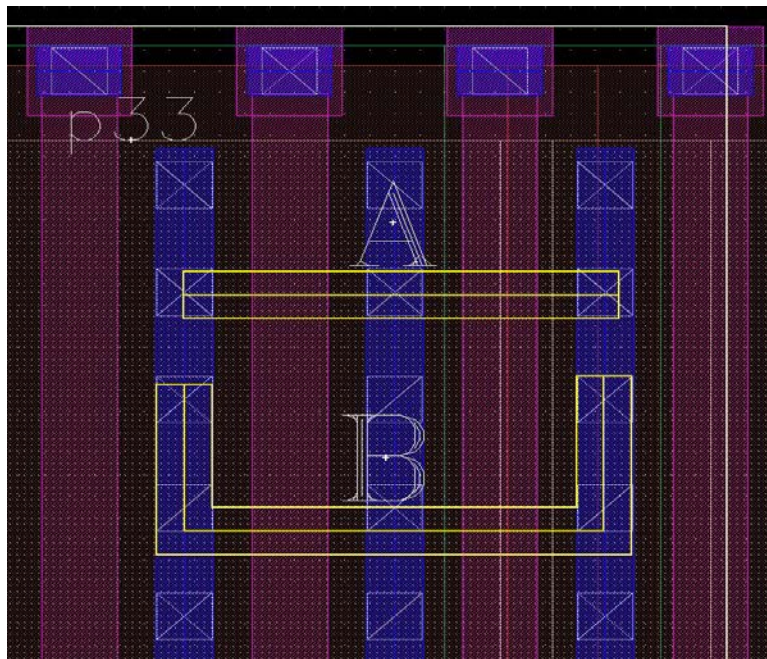

FIG.35b Extra turns at the starting/ending point to control via alignment
- 1) Vias on the starting point or ending point are always in same direction as the path, in order to place the starting via or ending via correctly, the user can make an extra short turn to change the via alignment, as shown in FIG. 35b: It is recommended to connect the two S/D terminals along the path B. The router may be unable to make a connection along the straight line “A” since there may not be enough to place via arrays horizontally.